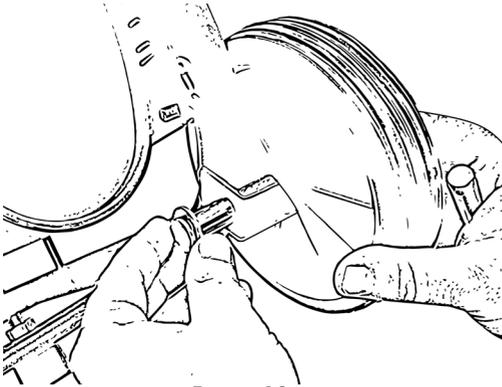

Figure 10
- Slide the wheel bolt over the wheel suspension, Fig. 10.